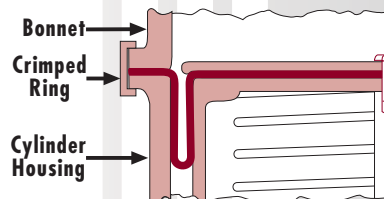

Fig. 21: Crimp-Ring Design
**Crimp Ring (fig. 21)** – This type of flange retention employs a separate metal crimp ring which is assembled to the actuator with properly designed crimp tools and lends itself to low cost, high volume manufacturing. Crimp rings are made of thin ductile material so that the forces required to form the lip will not result in overstressing the diaphragm flange.